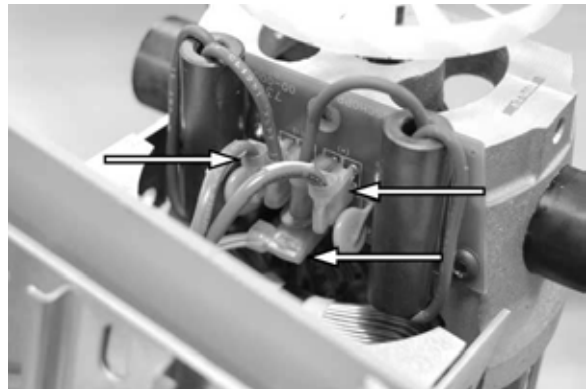

Figure 22.
4. See Figure 22. Disconnect the three motor wires.